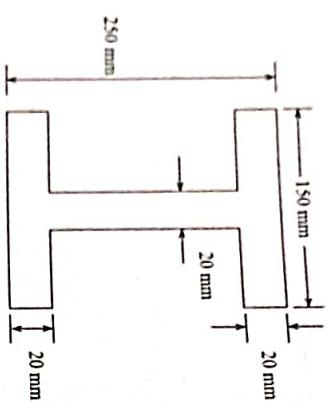

Figure 10.15
- 10.6 An I-section shown in Fig. 10.15 is used as a beam. Determine the percentage of shear force resisted by web if the beam is subjected to a shear force  $F$ .